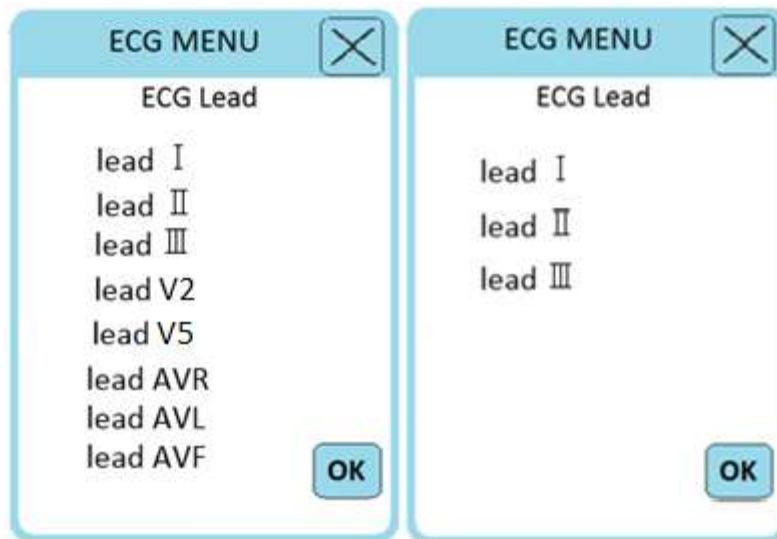

Figure 4-7: ECG Lead
- Press the HR parameter area (Figure 4-7) and select HR source.